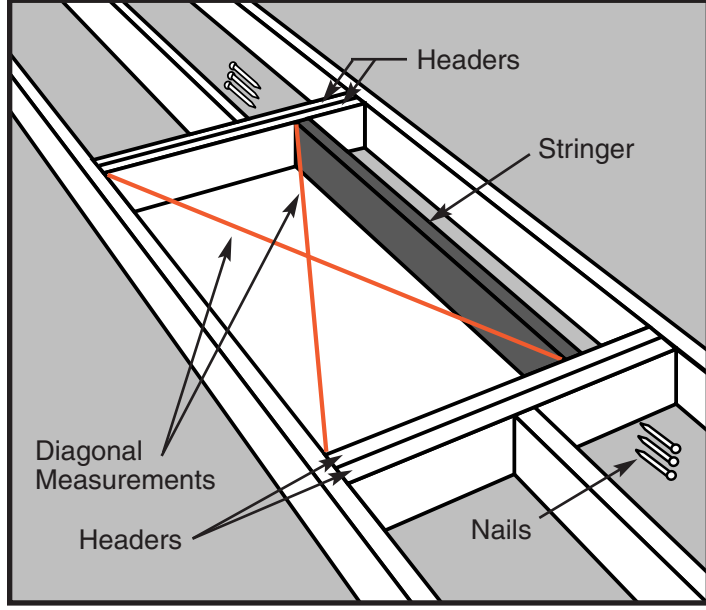

Figure 18
- STEP 4.** Position the stringer(s) along the unframed side(s) of your location (See Figure 18). Check that the inside dimensions of the frame are at least 22" x 22".
- STEP 5.** To attach the stringer(s) to the headers, use nails that are long enough to go through both headers and into the stringer at least one inch. In most cases, a 4 inch nail (20d) will be long enough. Square the stringer(s) to the headers at one end and drive 3 nails through the headers and into the stringer. Check for squareness, then nail the other end. Check the rough opening for squareness by measuring across the diagonals. **The two measurements must be within 1/8" to be considered square** (See Figure 18).